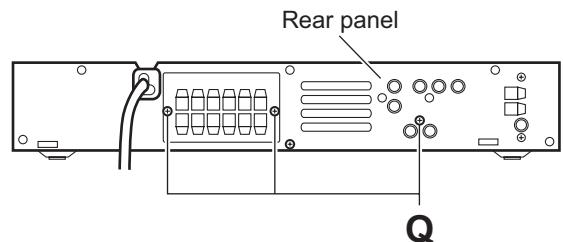

Fig.15
- (4) From the back side of the main body, remove the three screws **Q** attaching the main board to the rear panel. (See Fig.15.)
- (5) Take out the main board from the main body.